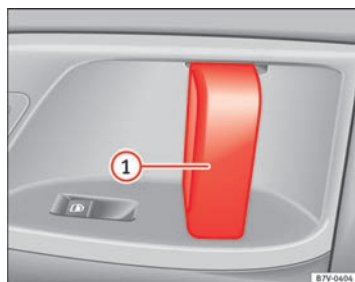

Fig. 49 On the sliding door, door handle ①
Opening the sliding door from the inside.	When the sliding door is released, open the door fully by pulling on its interior handle → Fig. 49 ①.